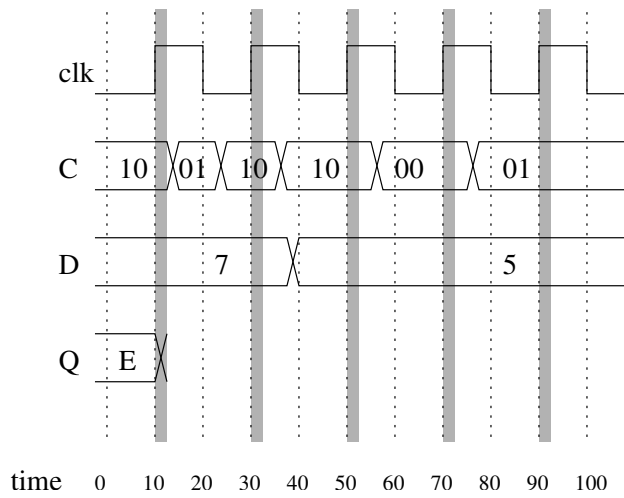

Figure 6.14: The timing diagram for a 4-bit counter in Problem 12.
12. (5 pts.) Complete the timing diagram in Figure 6.14 for a 4-bit counter. Use the control setting from the truth table on page ??.